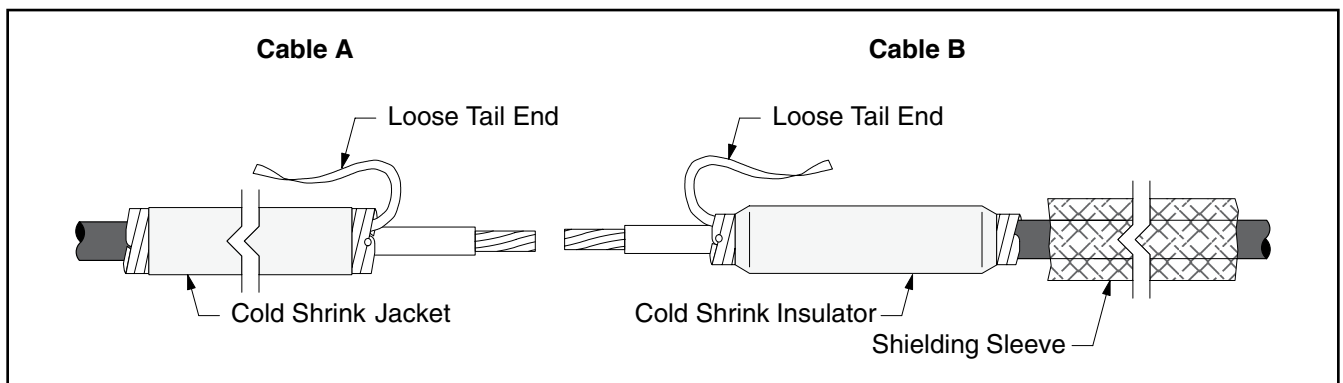

Figure 6
- a. Slide cold shrink jacket (longer, non-tapered tube) onto one cable (*Figure 6*).
- b. Expand diameter of shielding braid sleeve by pushing in at ends (to shorten length) and slide onto other cable (*Figure 6*).
- c. Slide cold shrink insulator (tapered ends) onto cable (behind shielding braid sleeve if used) (*Figure 6*).